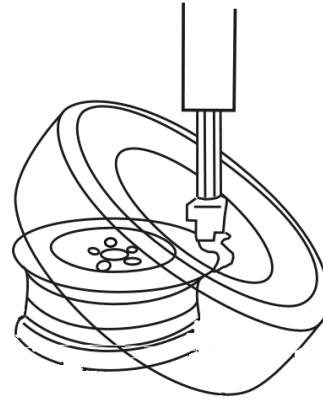

Fig. 22
- Place the tyre on the rim and make the column return to working position.(Fig. 22)